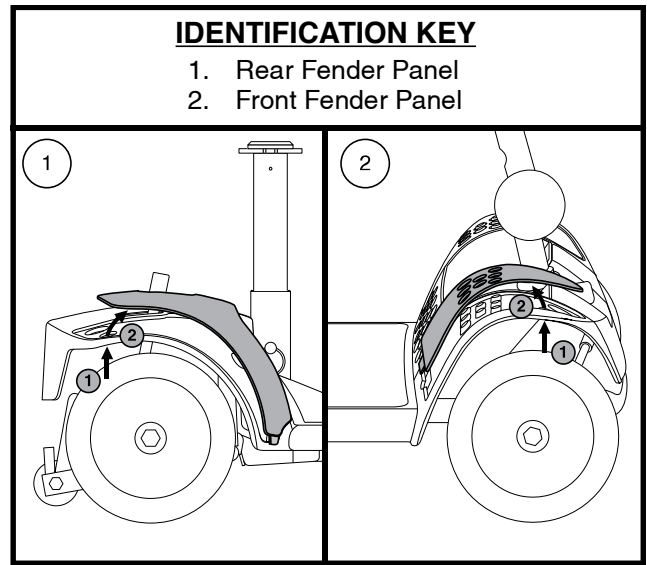

Figure 16. Fender Panels
2. Push through the hole to separate the piece from the Travel Scooter. See **figure 16**.
NOTE: When installing the front and rear fender panels, make sure the tab at the bottom of each panel is inserted into the tab opening before securing the panel. See **figure 16**.